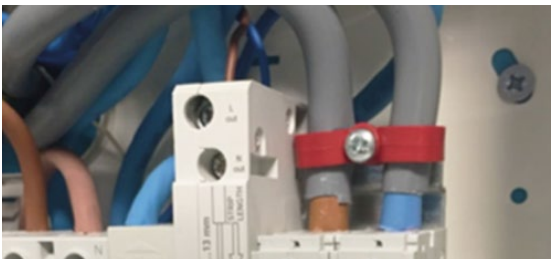

Fig 16. Example internal meter tail clamp
- Use of an internal clamping device (*Fig 16*),